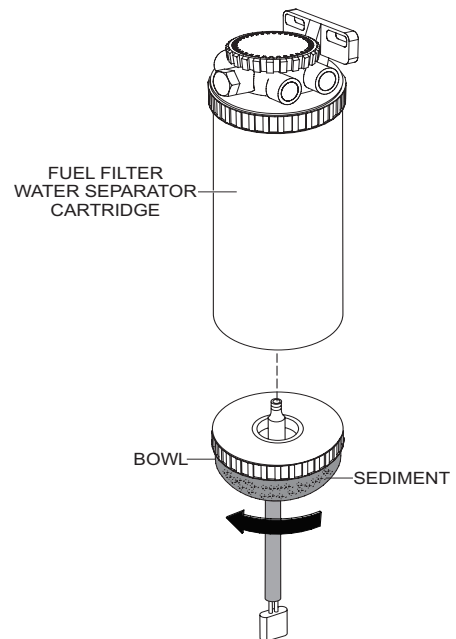

**Figure 180. Fuel Filter Cartridge Replacement**
1. Using a **filter wrench**, remove the **fuel filter cartridge** from the filter head (Figure 180).
2. Wipe the inside of the **filter head** (Figure 180) with a clean cloth to remove any foreign matter or debris that may have accumulated.
3. Replace both **gaskets** (Figure 180). Coat each new gasket with a small amount of clean 15W-40 engine oil.